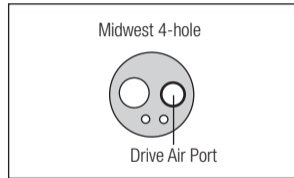

Fig. 12
- 3) Insert the Spray Nozzle into the Drive Air Port of the handpiece. Hold the handpiece and spray for approximately 2-3 seconds. Apply lubricant until it expells from the handpiece head for at least 2 seconds. (Fig. 12)
- 2) Apply 1-2 drops of lubrication oil into the Drive Air Port shown in the Fig. 12.